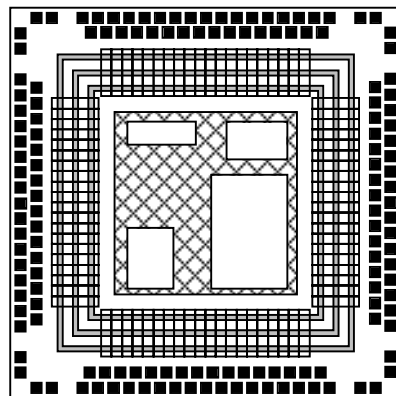

Figure 3. Random Logic Place and Route
- Oki Design Center engineers use layout software and customer performance specifications to connect the random logic and optimized memory macrocells *Figure 3* marks the area in which placement and routing is performed with cross hatching.